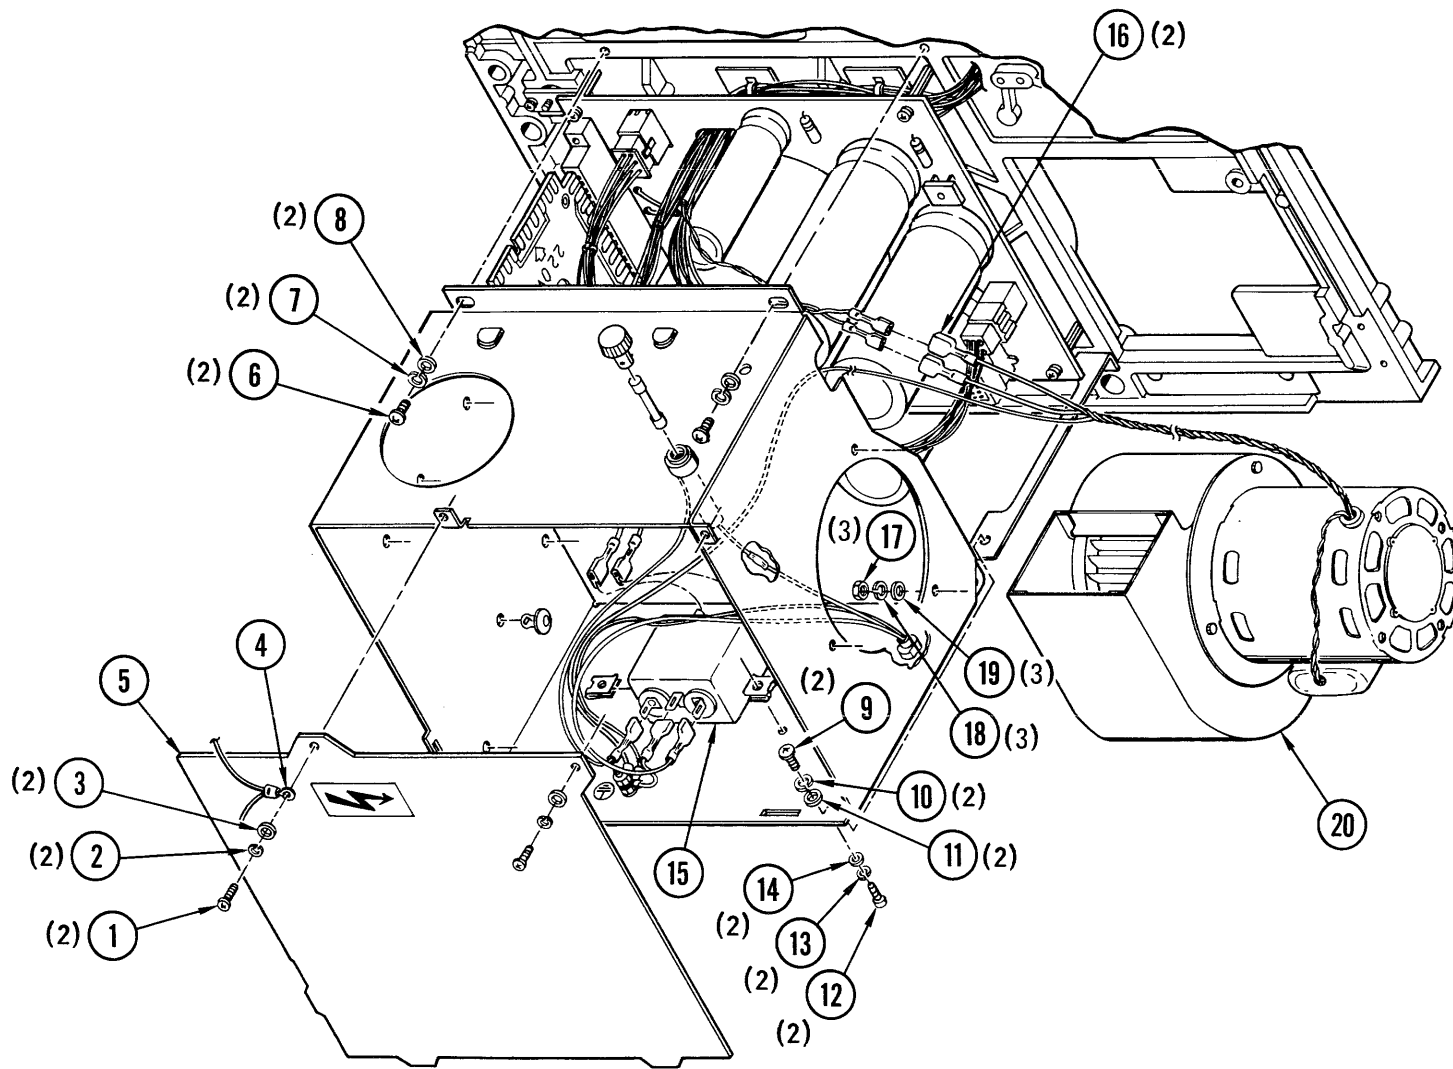

Figure 4-24. Power Supply Assembly
4-38. **Removal and Replacement (Figure 4-24).** Place the drive in service access position (paragraph 4-3) and proceed as follows:
- c. Remove screw (1, Figure 4-24), lockwasher (2), and flatwashers (3) securing ground wire terminal (4), and power supply cover (5).
- e. Remove screws (6), lockwashers (7), and flatwashers (8) securing power supply chassis to top plate.
- f. Remove screws (9), lockwashers (10), and flatwashers (11) securing chassis to rear bracket.
- g. Disconnect air pump wires (16) and terminals from EMI filter (15) noting position from which removed.
- h. If air pump assembly (20) is to be replaced, remove nuts (17), lockwashers (18), and flatwashers (19) securing air pump to chassis.